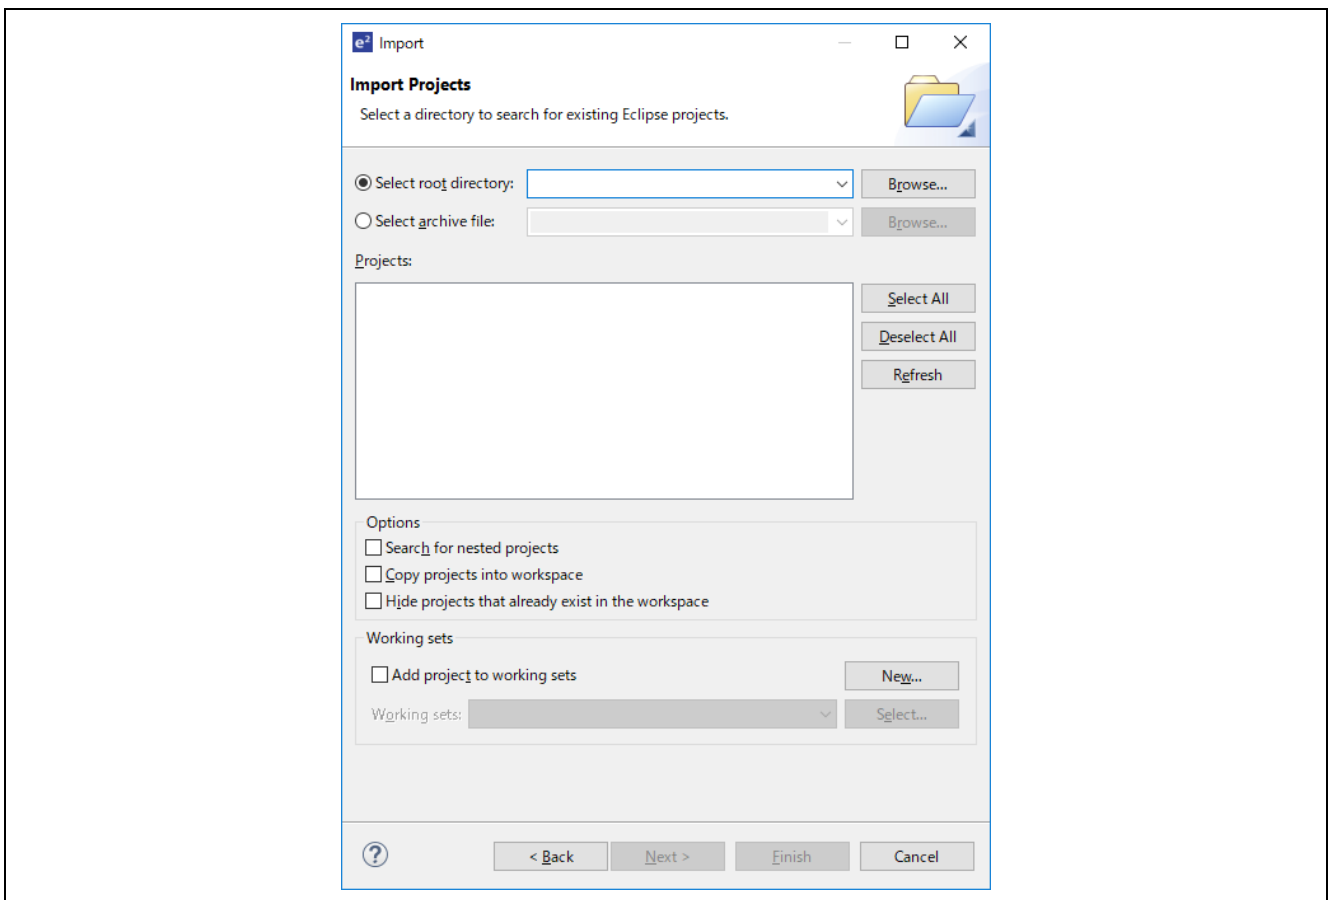

Figure 6-4. Import project dialog
6. Click [Next] and then following dialog will appear (Figure 6-4)